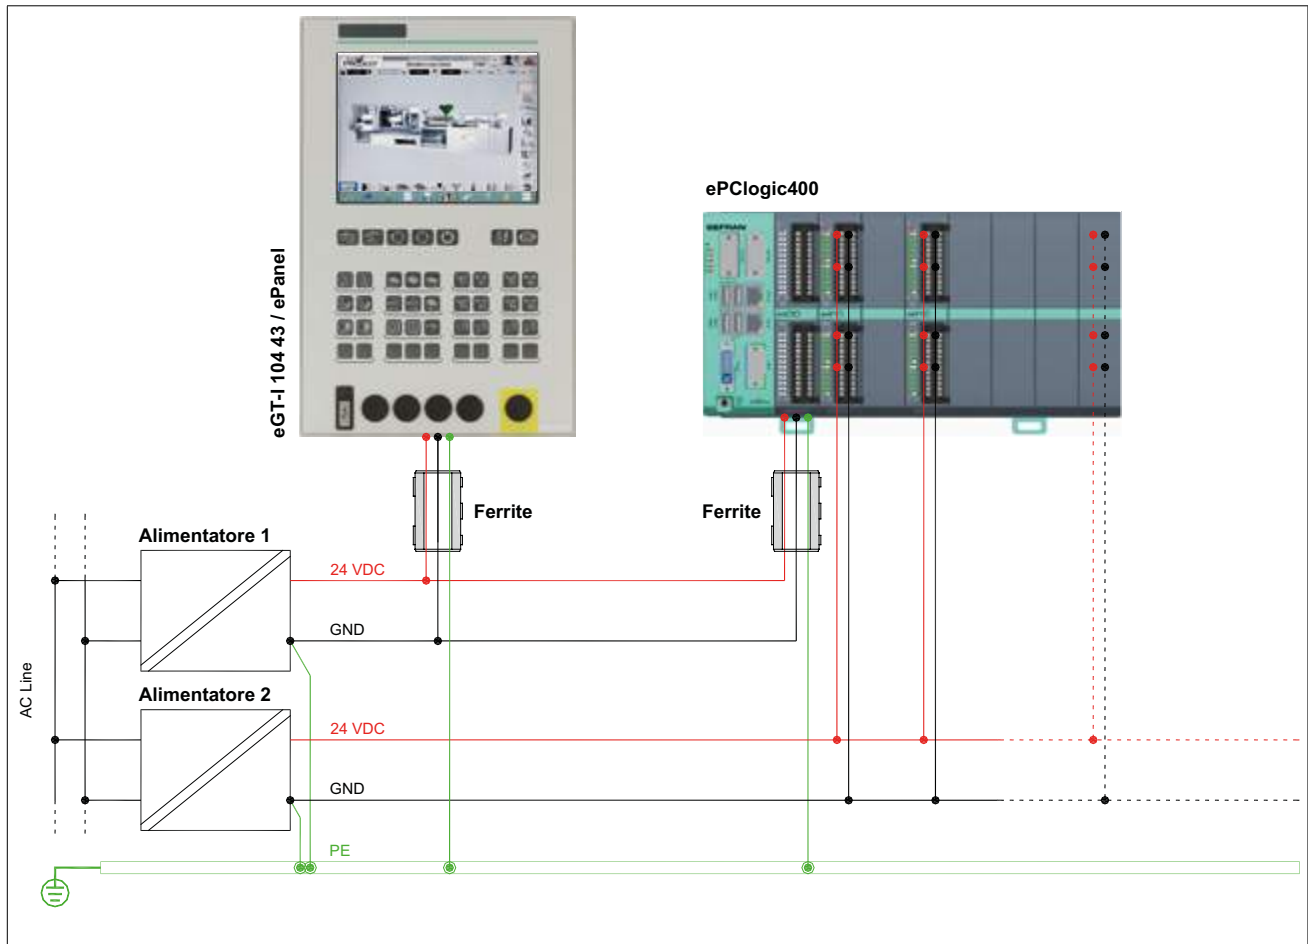

Figure 7 : Dual power supply
- Ground the power supply (GND) with a wire that is straight and as short as possible (PE).
- Ground the ePanel / eGT-I ground terminal and the ePCLoGic400 (GND) with a wire that is straight and as short as possible (PE).
The system can be powered with TWO (2) power supplies as shown in figure 7.